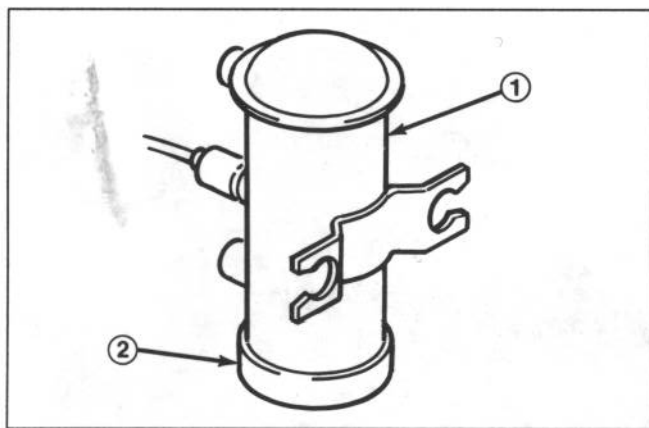

Figure 40
1. Fuel pump (Fig. 40) is located on inside of left frame channel below tool box.